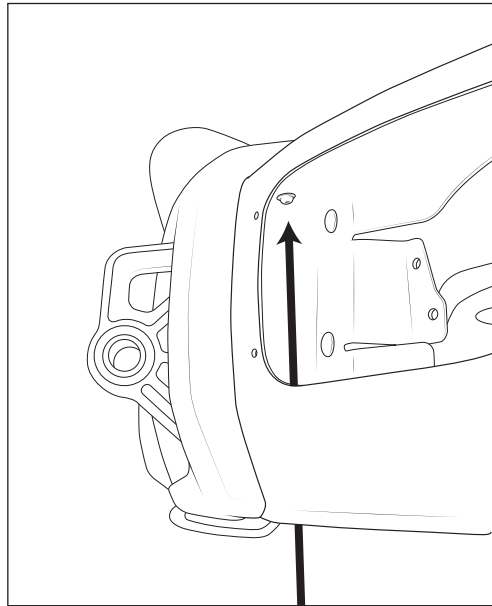

Figure 21
3. Install the M10x25 button head bolts and washers into the tube ends and hand tighten (fig. 21).